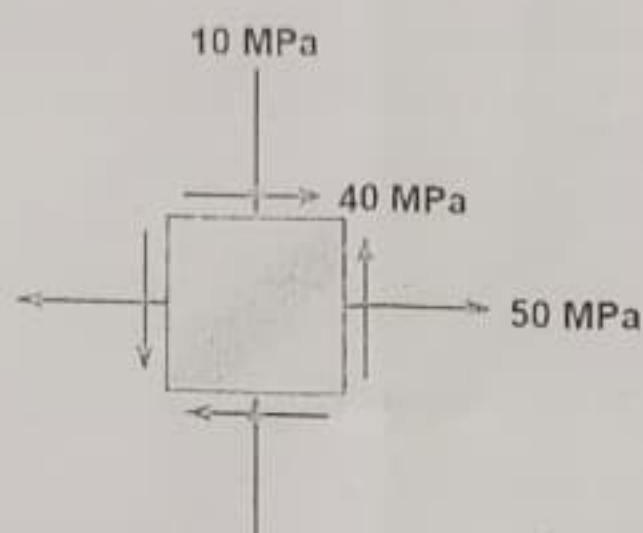

Figure 2
2. For the state of plane stress considered in figure 2 determine (a) the principal stresses and principal planes (b) maximum shearing stress and the corresponding normal stress.